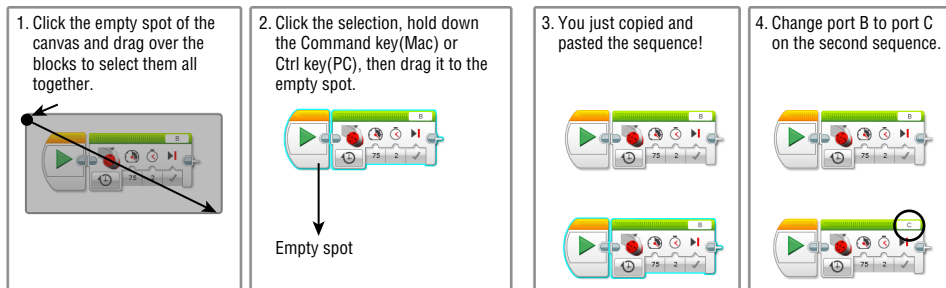

Figure 4-22: Program the Auto-Driver to move straight with two sequences of code
- Copy and paste the sequence of the blocks (follow the instructions in Figure 4-22) and change port B to C.